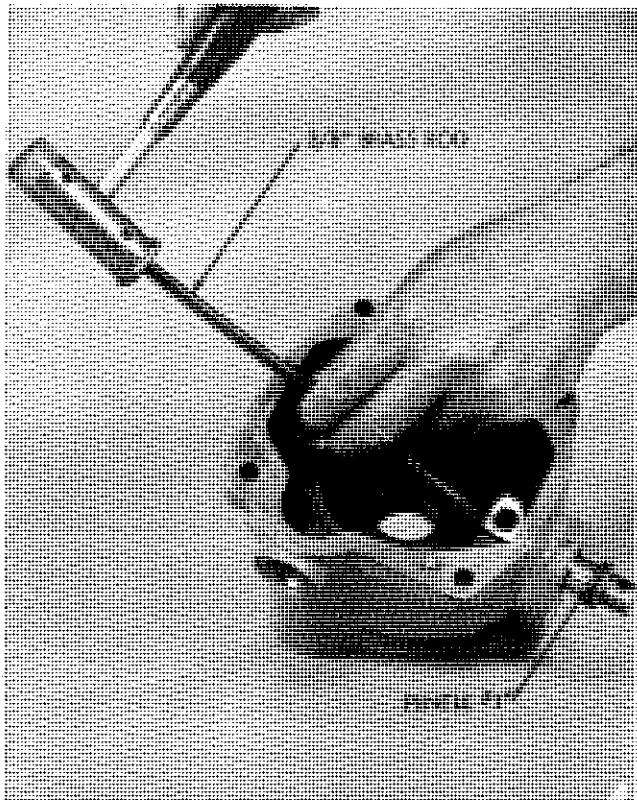

Figure VI-31. Removal of Pintles and Yoke
- b. After removal of the yoke screws, it is possible to remove the pintles. The tools needed for this operation are a hammer and a 3/8 inch (9.53 mm) brass rod approximately 10 inches (254 mm) long. Remove pintle number 1 (Figure VI-31).